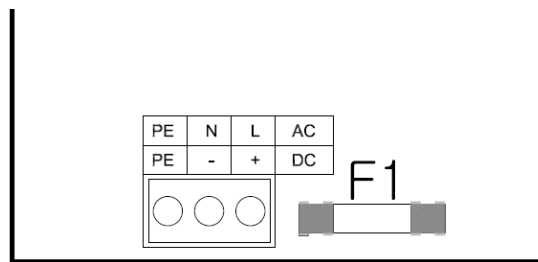

Figure 6 Mains cable connection
2.3.7 Connecting the AC supply (see fig 6)